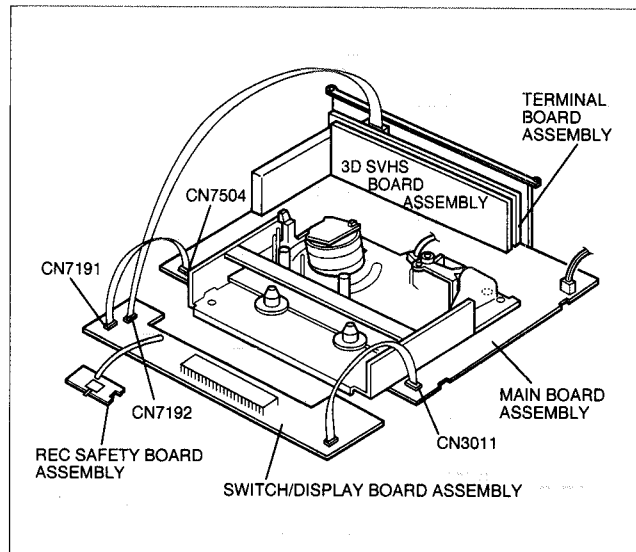
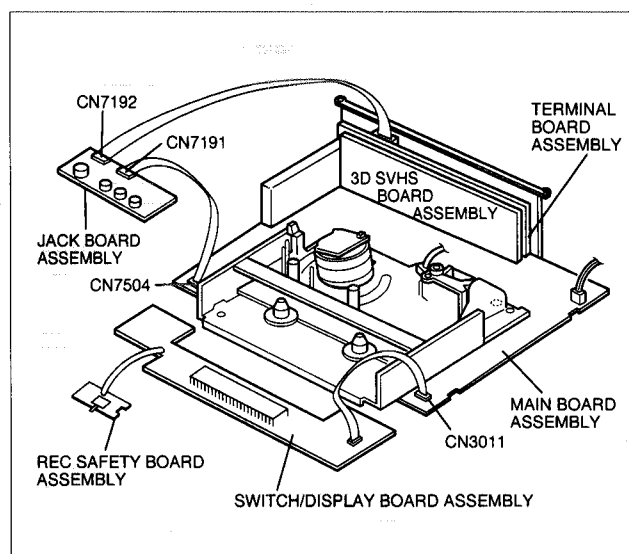

Fig. 1-4-3
Fig. 1-4-6
- (8) Place the Switch/Display board assembly and REC safety board assembly on the front side of the Mechanism and Main board assemblies which was removed at the step (6), then connect the flat wires into CN3011 and CN7504 of the Main board assembly and CN7105 of the Terminal board assembly. (Refer to Fig. 1-4-3.)
- (8) Place the Switch/Display board assembly, REC safety board assembly and Jack board assembly on the front side of the Mechanism and Main board assemblies which was removed at the step (6), then connect the flat wires into CN3011 of the Main board assembly, CN7191 and CN7192 of the Jack board assembly. (Refer to Fig. 1-4-6.)
1.4.4 Cassette loading and ejection methods in the "SERVICE POSITION" (See Fig. 1-4-3 or Fig. 1-4-6).
- (1) Insert a cassette halfway in the Cassette holder assembly.
- (2) Set the switch on the REC safety board assembly to ON (by pressing the switch).
- (3) As soon as the cassette starts to be loaded, set the switch on the REC safety board assembly to OFF (by releasing the switch).
- (4) Now the desired operation (recording, playback, fast forward, rewind, etc.) is possible in this status (the status shown in Fig. 1-4-3 or Fig. 1-4-6).
- When performing diagnostics of the tape playback or recording condition in the "SERVICE POSITION", enter the desired mode before turning the set upside down, and do not change the mode during diagnostics while the set is placed upside down. If you want to switch the mode, turn the set to the normal position (the status shown in Fig. 1-4-3 or Fig. 1-4-6).
- (5) The switch on the REC safety board assembly does not have to be operated when ejecting a tape. But be sure to turn the set to the normal position before ejecting the tape.